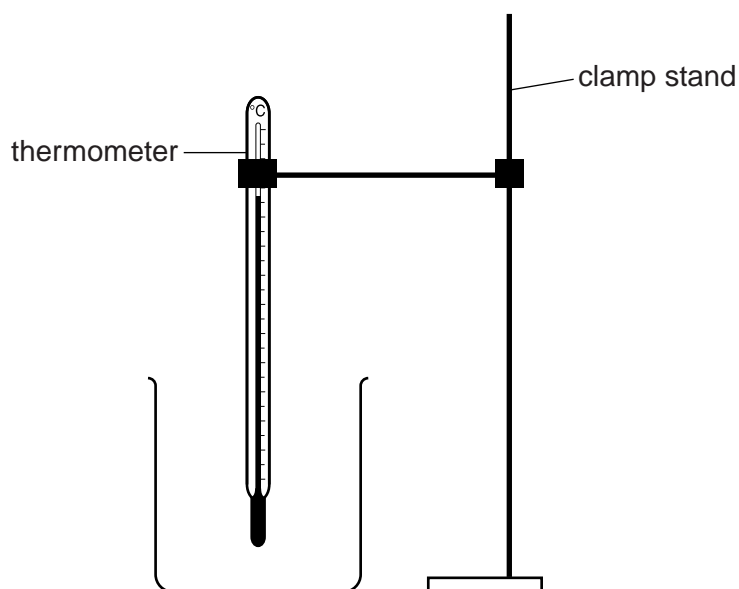

Fig. 2.2
5. A clamp, boss and stand are to be set up with the thermometer held in the clamp as shown in Fig. 2.2. The candidates must be able easily and safely to read temperatures up to 90°C and to move the thermometer in and out of the water without the danger of the beaker tipping.